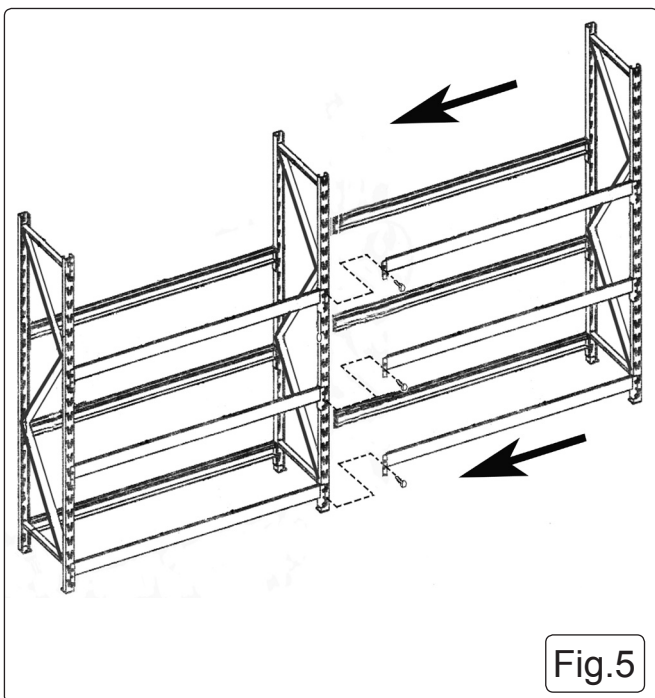

Fig.5
- 1.3 **Fitting the cross beams. Refer to Fig.5.**